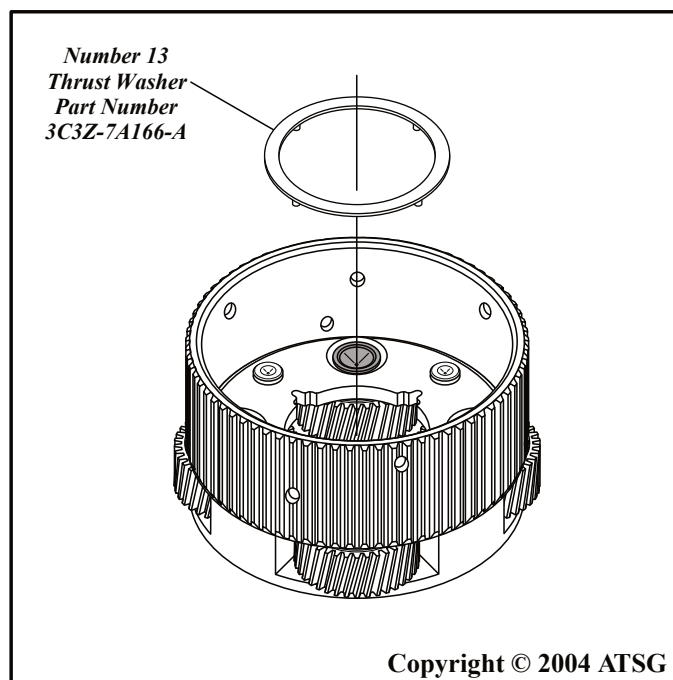

Figure 154
6. Install the number 13 thrust washer on the rear planetary carrier, as shown in Figure 154, and retain with Trans-Jel®.